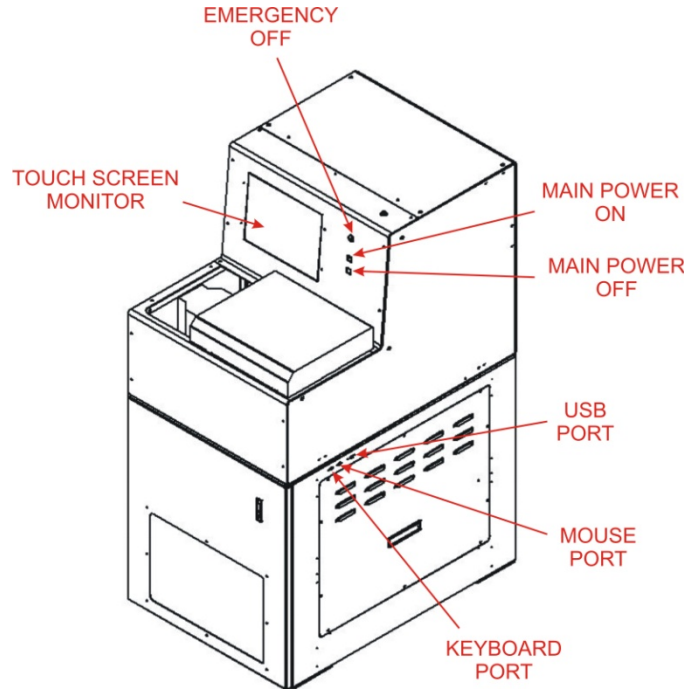
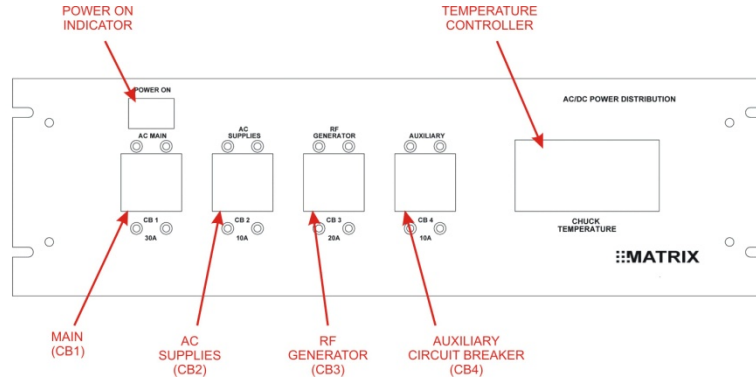

Figure 4-1: Operator Controls
Figure 4-2: Power Distribution Box
The operator controls are located on the front panel of the Allwin21 AW105R, figure 4-1.
Once the power has been turned on by pressing the **Main Power “ON”** push button on the front control panel, the system will start to initialize and the control software will load. Also, the **Power On Indicator** on the front of the power distribution box will illuminate, figure 4-2.
- The main circuit breaker (CB1) on the power distribution box (figure 4-2) is on.
- Step 3. Press the **Main Power ON** button on the front control panel (figure 4-1). This will turn on the AW105R. The **Power On Indicator** should illuminate (figure 4-2).
- Step 2. Press the Main Power OFF push button on the operator control panel (figure 4-1).